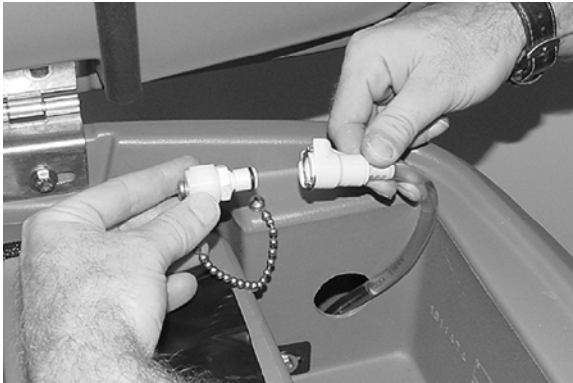

FIG. 72
7. When finished, connect the supply hose to the storage plug (Figure 72).